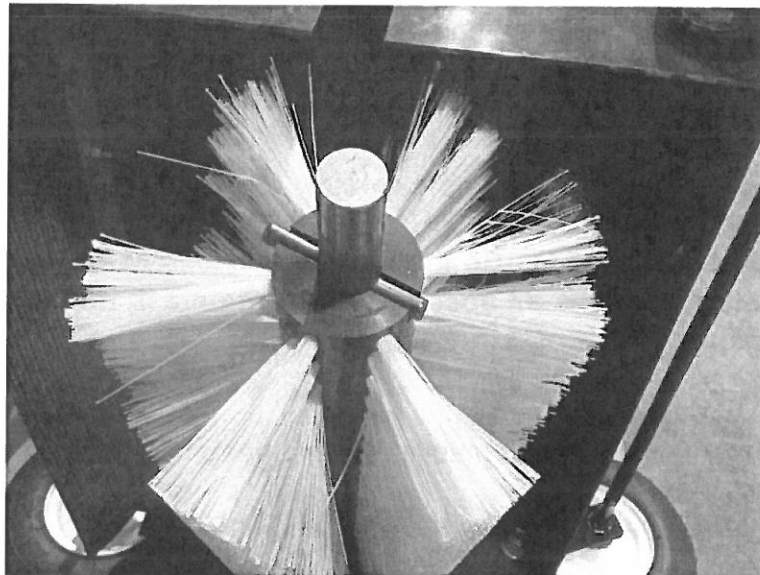

FIGURE 5
5. Remove the cross pin and slide off brush. Slide on new brush and reassemble (Fig 5).